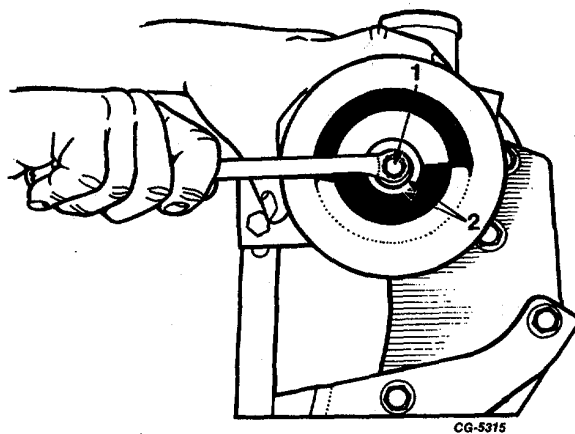

Fig. 22 Removing Power Steering Pump Pulley Bolt
18. Remove power steering pump pulley mounting bolt and flat washers, Figure 22.